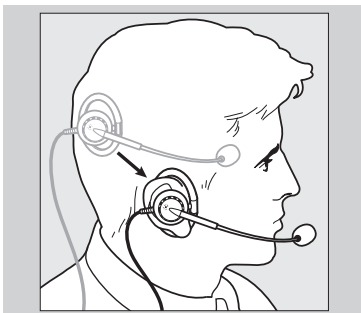

Figure 4-3. Earloop Wearing.
1. Swing the earloop away from the receiver to form a “V” (see Figure 4-3).